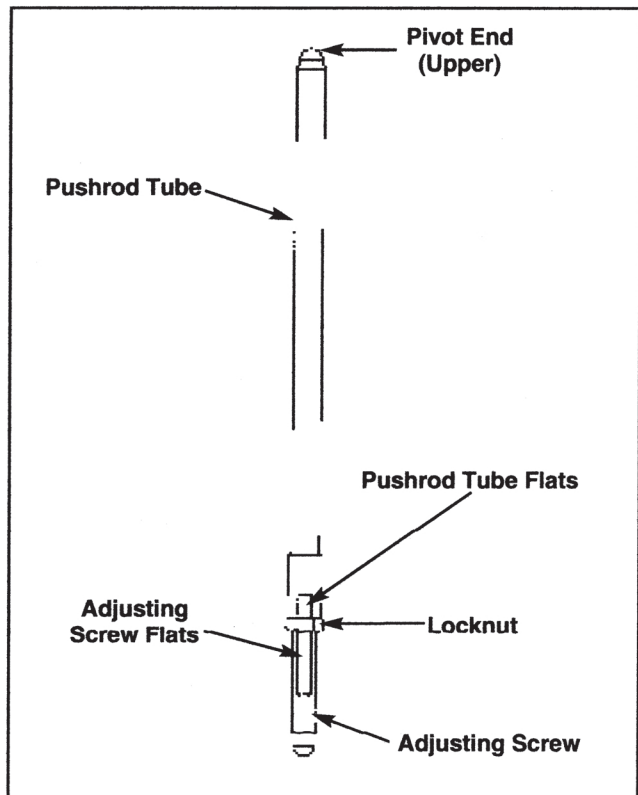

Figure 1. Adjustable Push Rod
5. See Figure 1. Loosen locknut on all of the pushrods and adjust them to their shortest length.
- 2A. See Figure 1. With the pushrod tube kept from rotating with a 1/2 inch or adjustable wrench, slowly turn the adjusting screw with a 5/16 in. wrench, 2-1/2 complete turns counter clockwise (lengthening the pushrod) as viewed from the bottom. (You may wish to mark adjuster to aid counting turns.)